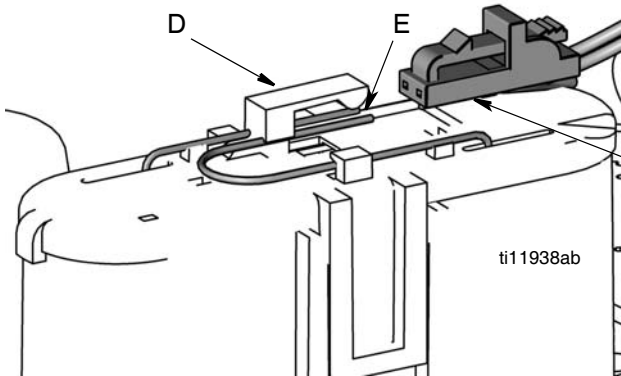

FIG. 48
9. Reconnect lead (B) to battery by carefully sliding connector over battery terminals (E) until it snaps securely into place under clip (D) (FIG. 48).